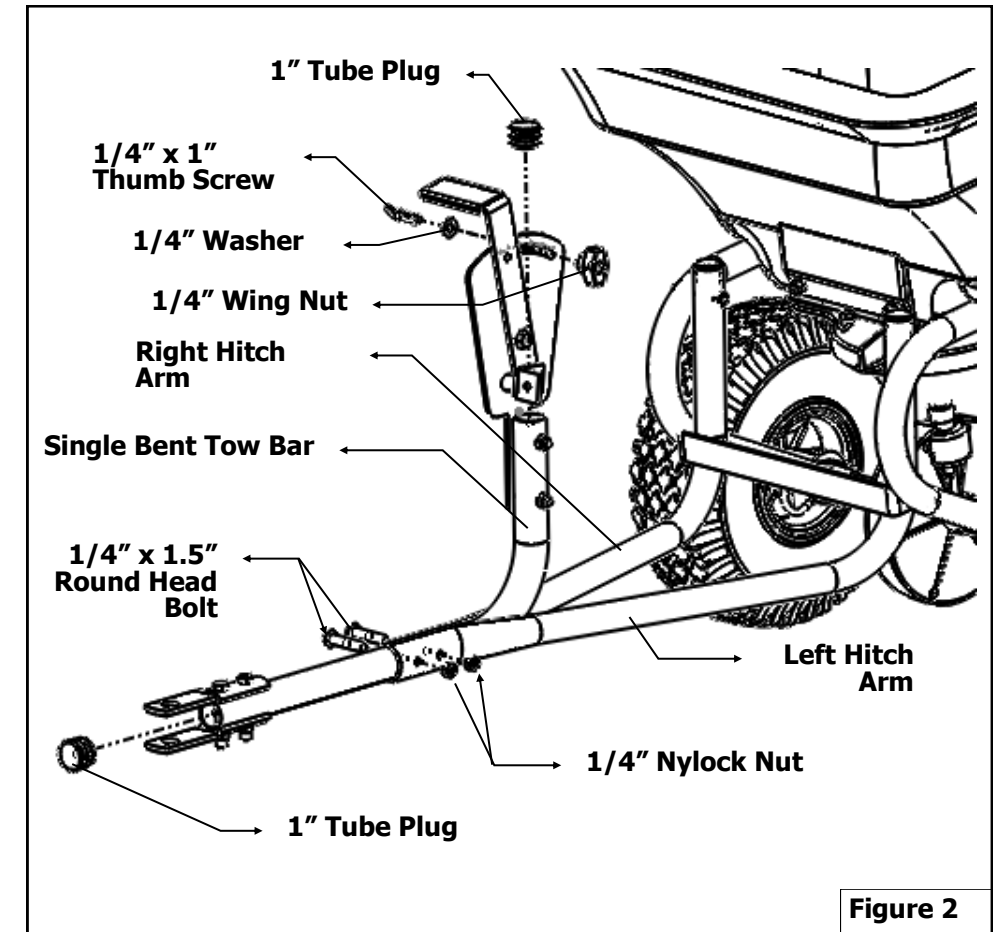

Figure 2
2. Place long end of Tow Bar between Left and Right Hitch Arms then insert 1/4" x 1.5 Round Head Bolts through holes and tighten with 1/4" Nylock Nuts. Insert Thumb Screw and 1/4" Washer into slide on Number Pad and secure with Wingnut. Tap both 1" Tube Plug into place. See Figure 2.